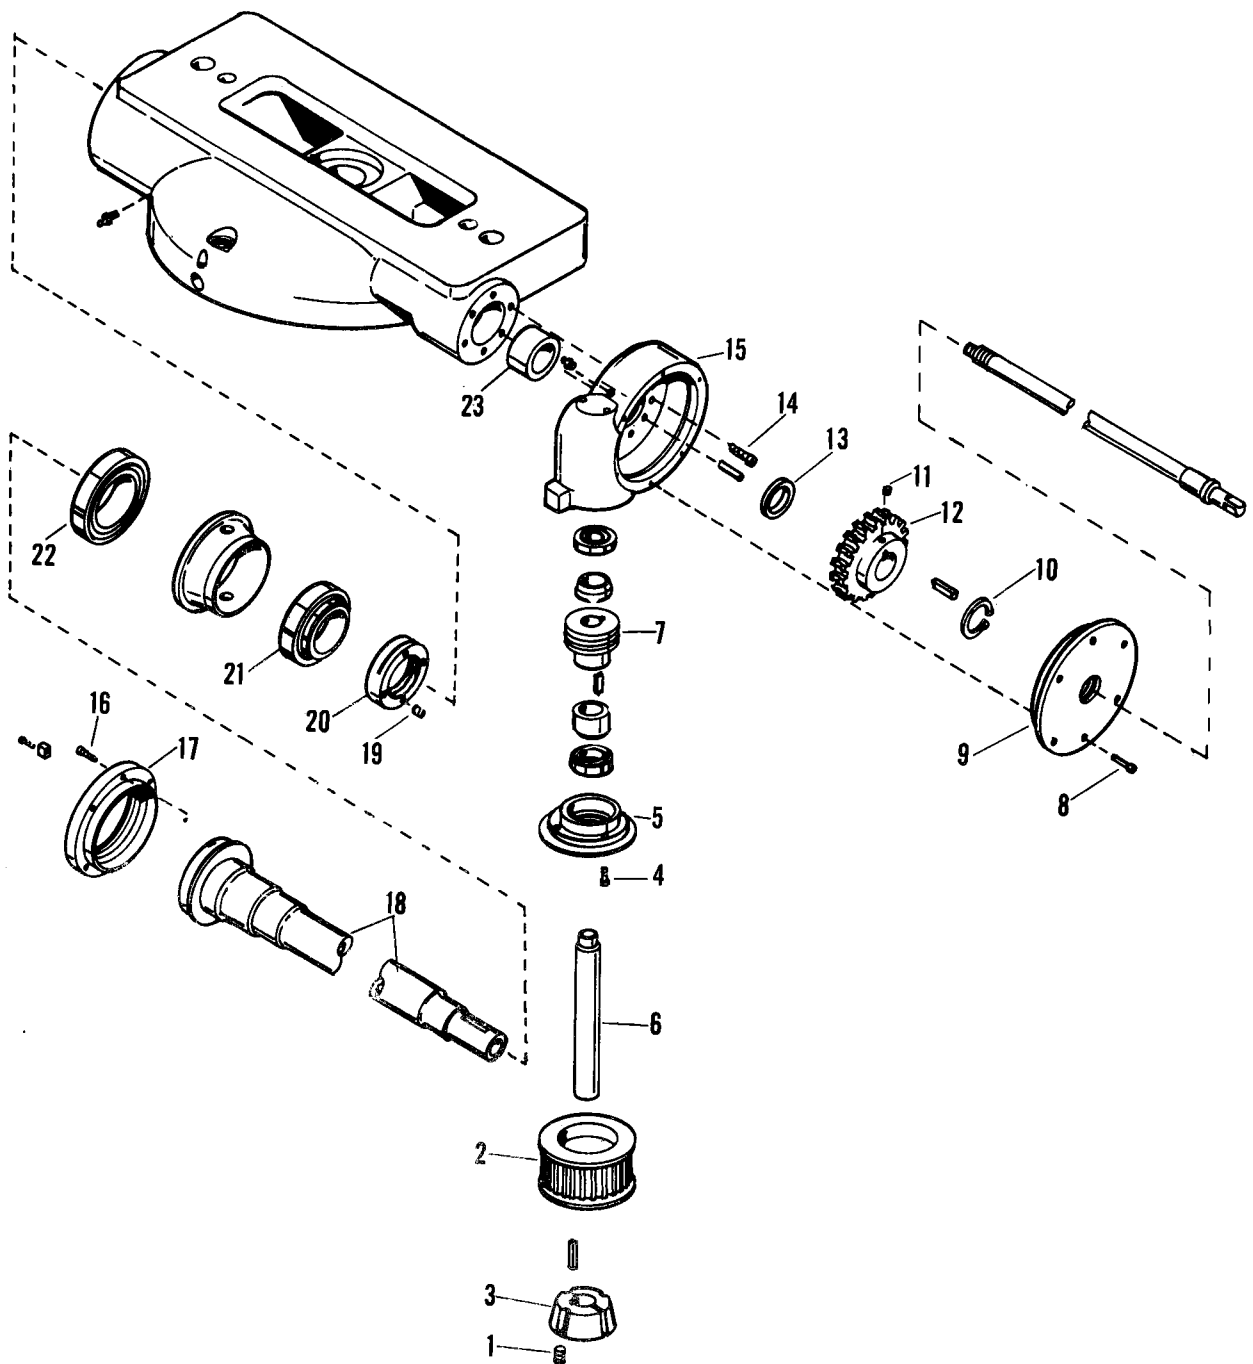

Figure 27. Removing Horizontal Spindle And Bearings
58. REMOVING HORIZONTAL SPINDLE AND BEARINGS (figure 27)